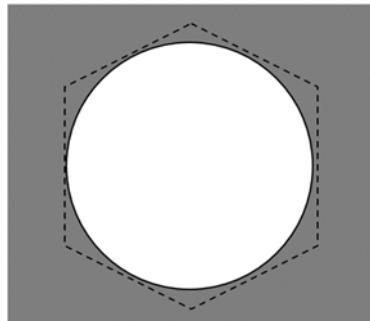

Figure 2. Image you should see after the field is opened after adjustment
8. Adjust the condenser aperture so that its NA (the angle of the rays focussed on the sample) approximately matches the NA of your objective lens. (See Fig. 2 in the MM labsript or the Nikon MicroscopyU website.) Thus, for a 100x objective, the condenser diaphragm should be fully open (lever to the left) to collect the largest amount of light; for a 10x objective, the diaphragm should be closed down more.